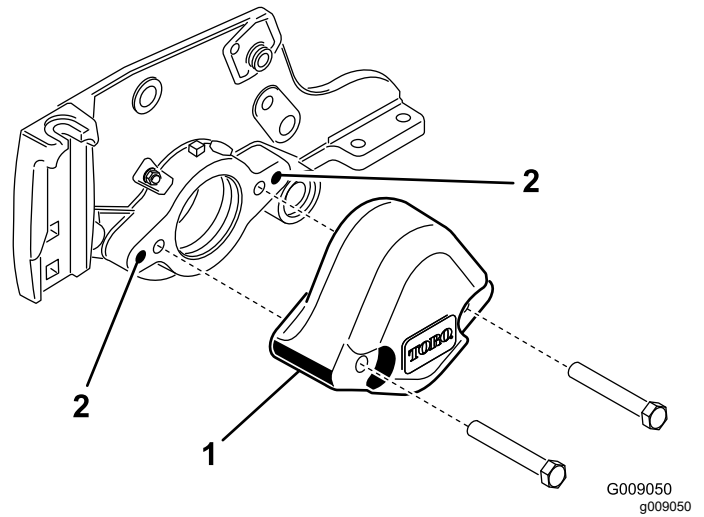

Figure 4
3. Remove the 2 bolts securing the counter weight to the left end of the cutting unit. Remove the counter weight (Figure 4).
4. Using a 3/8-16 tap, remove the paint in the outer mounting holes in the side plate (Figure 4).